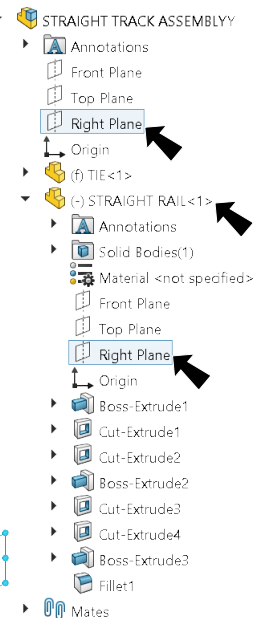

Fig. 10
Step 7. Expand the flyout Feature Manager design tree, click **Right Plane**, expand **Rail** and click **Right Plane**, Fig. 10.